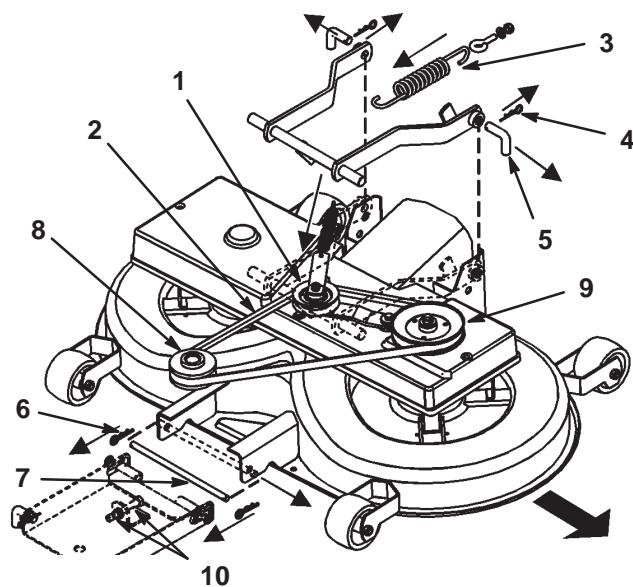

Figure 39
- Pull the idler arm assembly in and remove the V-belt from the pulley (Fig. 39).
- Disconnect the spring from the engagement lever (Fig. 39).
- Remove the hairpin clips from the 2 rear pins and remove the pins (Fig. 39).
- Remove the hairpin clip from the front pin and remove the pin (Fig. 39).
- Remove the V-belt from the engine pulley (Fig. 39).
- Remove the V-belt pulley and the idler arm assembly (Fig. 39).
7. Move the lower pin of the front adjustment suspension into the bottom position of the slotted holes by adjusting the 2 nuts (M12) on the front suspension (Fig. 39).